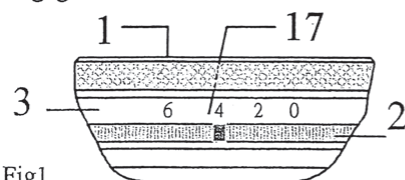

Fig1
a) The above operations call cross feed to the tool slide (5). Therefore, the tool slide locking screw (9) must be loosened.
b) The VBHU universal boring head provides the following automatic cross feed to the tool slide : 0.02, 0.04 and 0.06mm/rev. The required feed is set as follows : the control ring (2) has to be turned until the red gauge line on the control ring points against the red hole attached to the figure expressing the feed rate in 0.01mm/rev. and is located on the graduating scale for automatic crossfeed (17). The selected feed is the best engaged as follows : the control ring (2) has to be gripped on its knurled part by the thumb and forefinger of one hand, whereas the braking ring (1) (clutch 15 being thrown-in) is gripped by the thumb and forefinger of the other hand. There after, the selected feed is engaged by turning the two rings against each other. Figure 1 shows the example of feed engagement. It shows engagement cross feed to the tool slide of 0.04mm/rev.